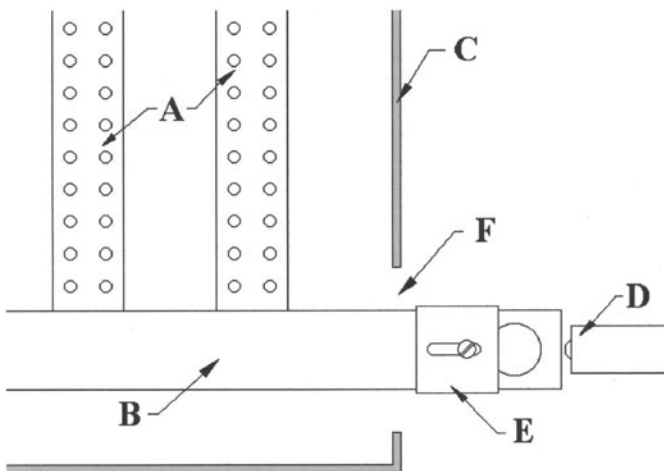
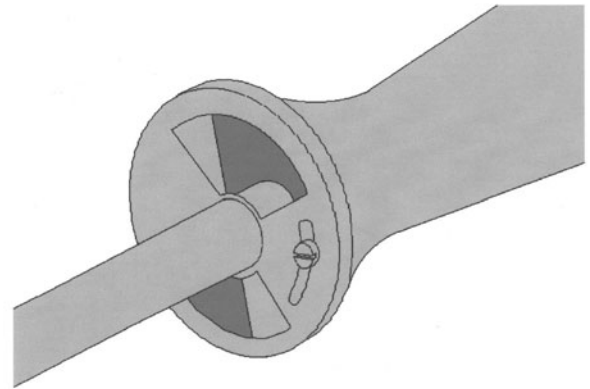

Figure 10-48. Primary air sleeve.
Figure 10-49. Primary air shutter.
On atmospheric burners, primary air adjustment is accomplished by moving a sleeve (Figure 10-48) or rotating a shutter (Figure 10-49), thereby changing the opening for primary air. The gas nozzle (D in Figure 10-48) converts much of the static pressure in the gas to velocity pressure. The high velocity gas shoots into the distribution header (B), drawing primary air along with it through the opening that is adjusted by the sleeve (E). The mixture then flows into the flame runners (A) and out the ports, where heat from a spark or adjacent fire provides ignition energy to start the combustion. Always remember that additional air, secondary air, is required to complete the combustion and enters through openings like the one at (F).